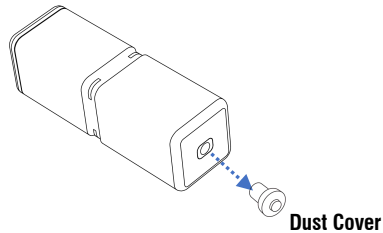

Figure 10A
- i. Remove Dust Cover. (*Please do not remove Dust Cover if Remote Sensor Probe not installed*) “Figure 10A”